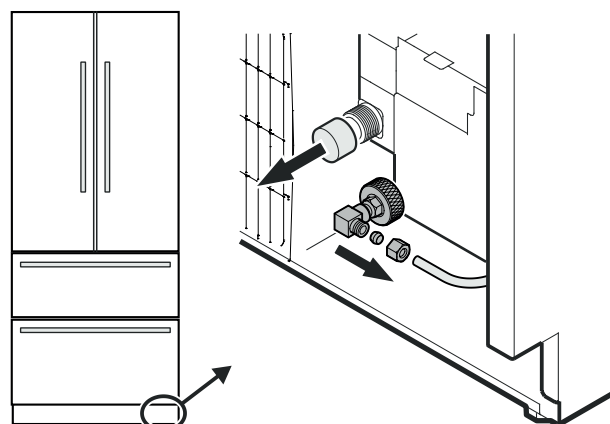

Figure 15
5. Remove the cover from the solenoid valve (**Figure 15**).